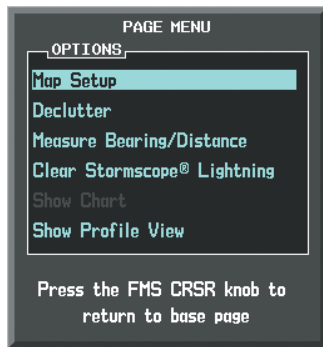

Figure 6-115 Navigation Map Page Menu
- 3) With Map Setup highlighted, press the **ENT** Key (Figure 6-115).